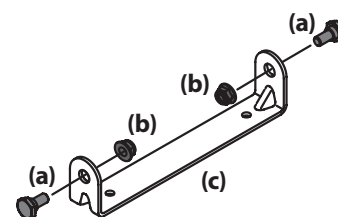

Figure 4
- Remove the shoulder bolts (a) and lock nuts (b) from the seat mounting bracket (c) included in your hardware pack. See Figure 4.